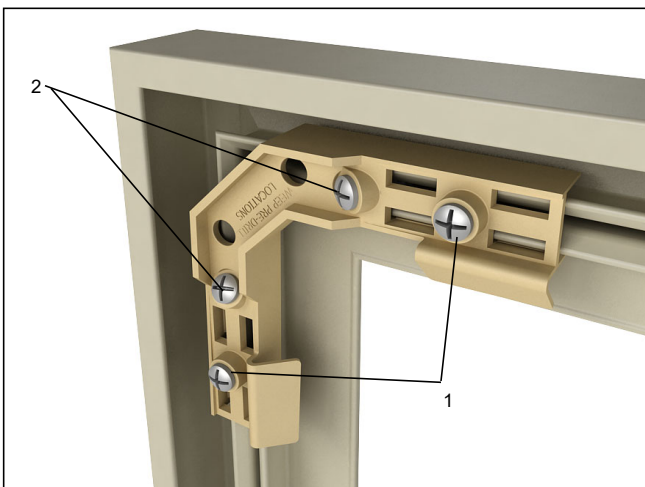

Figure 17
5. Fasten the corner key with included screws. First apply the outside 90° screws (1) followed by the two inside angled screws (2). Fasten until joints are tight. Over tightening may cause screw channel to strip out. See *figure 17*.